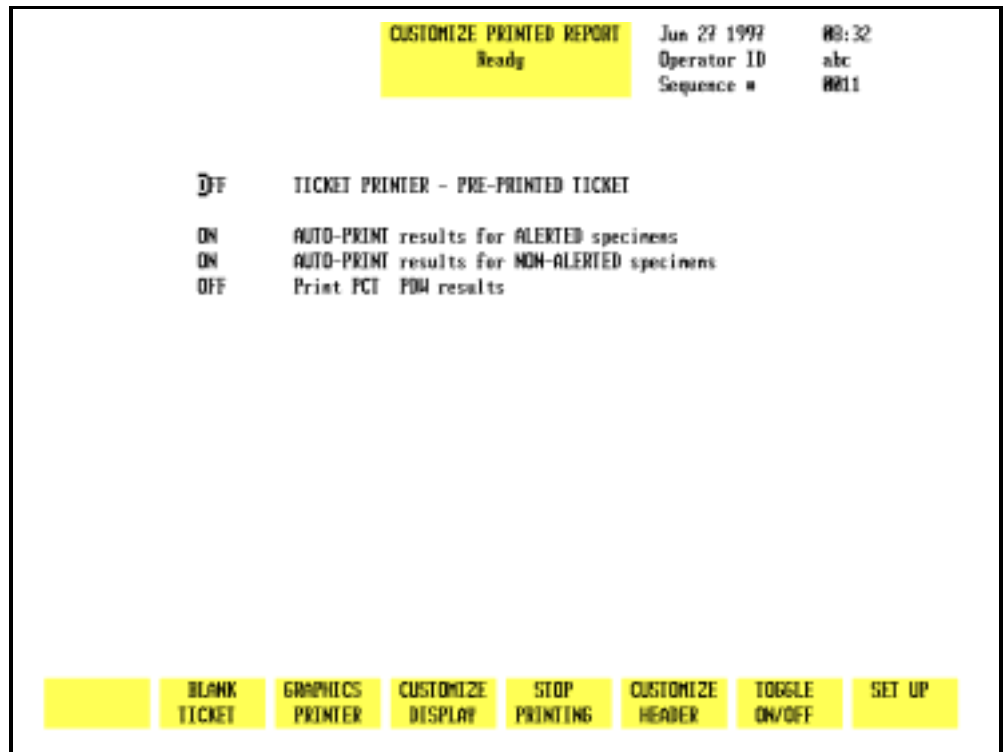

Figure 5.25: Customize Printed Report Screen for Pre-Printed Tickets
When the [PRE-PRNTD TICKET] key is pressed, the CUSTOMIZE PRINTED REPORT screen is displayed. The numbers on the screen shown in Figure 5.25 correspond to the following numbered options:
1. Go to the Ticket Printer - Pre-printed Ticket section of the CUSTOMIZE PRINTED REPORT screen (refer to Figure 5.25).